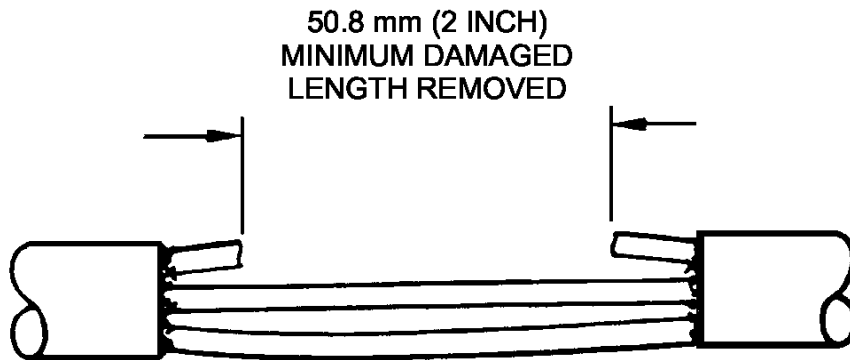

Figure 10. Wire with Damaged Portion Removed.
c. Score jacket carefully around cable and along area to be removed using a sharp blade. Do not cut shield (Figure 10).
h. Cut damaged wire or wires to remove any damaged portions. If damaged wire must be cut out, remove at least 2 inches total length. If damage is at a single point, damaged wire can be cut at the point of damage (Figure 10).
i. Cut undamaged wires at staggered locations (Figure 10).